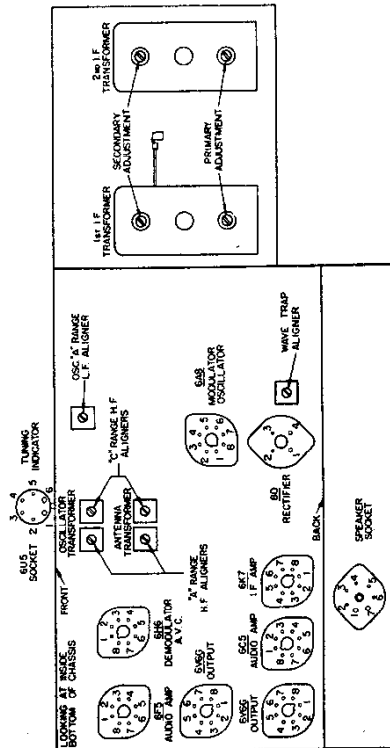

Fig. 1. Terminal Layout for Voltage Measurement Chart and Location of the Aligning Capacitors.
The values of voltages listed in the table below are those measured between the various tube socket terminals when the receiver is in proper operation. Figure 1, shows the terminal layout of the sockets with the proper terminal numbers.
In making any alignment adjustments, always adjust the test oscillator's output voltage to the minimum value. Before proceeding with the alignment of any circuits in these receivers, the alignment of the Tone's control knob is set for maximum treble response (position where knob is rotated from its maximum counter-clockwise position, slightly clockwise to position where set turns "on"), and that the slotted shaft of the electric tuning set-up switch, located on the rear of the chassis base, points in the direction of the word "Set-Up". When the test oscillator is set at the intermediate frequency, the test oscillator's output terminal should be rotated so that the slot points in the direction of the word, "Operate". Figure 1, shows the location of all the aligning capacitors in these receivers.
3. Now, noting from Figure 1, the aligning capacitors for the first and second I. F. transformers, align the I. F. circuits in the following manner: